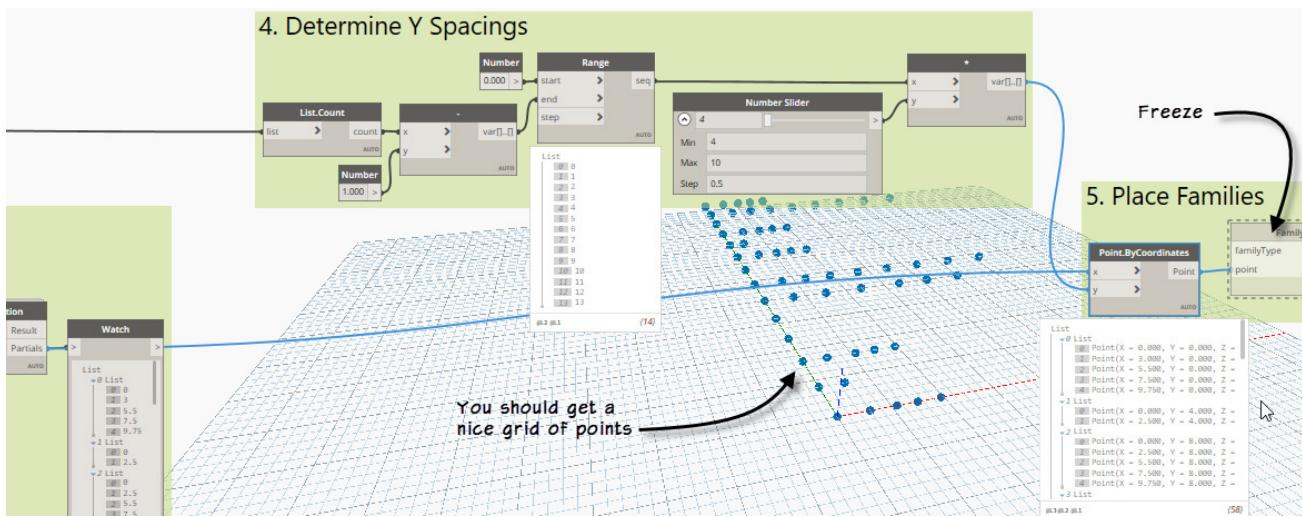

Figure 57
42. In group 5, right-click the **FamilyInstance.ByPoint** node and choose: **Freeze**, then run the graph (see Figure 57).